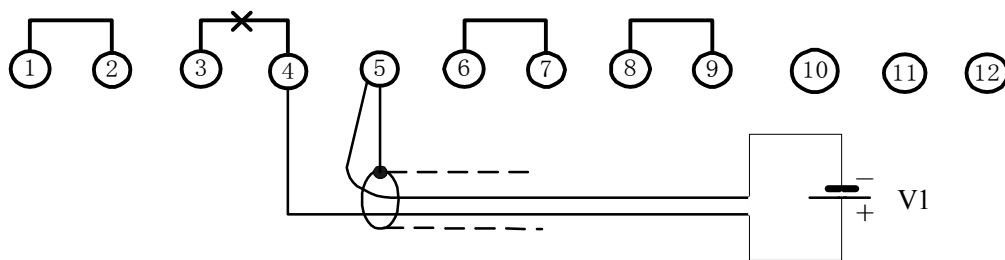

Fig.8
a. Disconnect (3) and (4), the shielded two—wire cable is connected as shown in Fig.8. “+” terminal is connected with (4) , “-” terminal with (5) , the outer coating of the cable with (5).